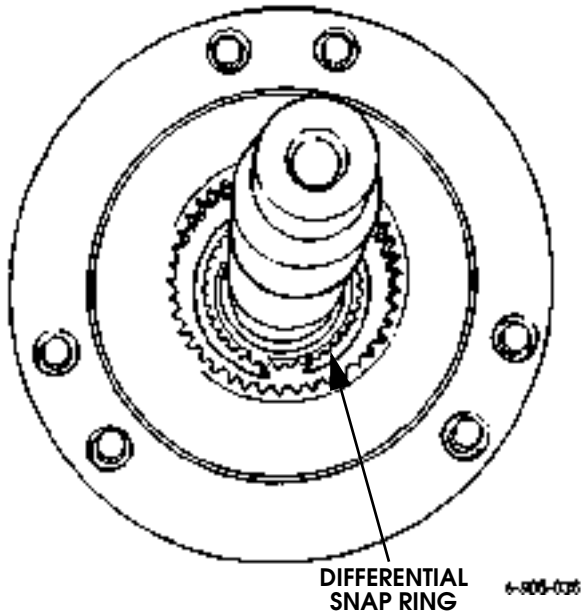

Figure 5-101: Differential Snap Ring Location
23. Remove differential snap ring (Figure 5-101).